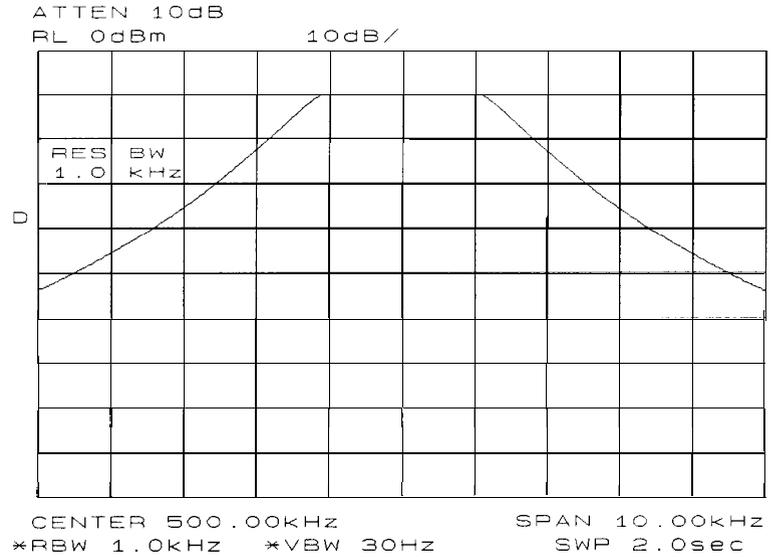

Figure 2-1. 1 kHz Signal Separation
4. Set the resolution bandwidth to 1 kHz. See Figure 2-1.